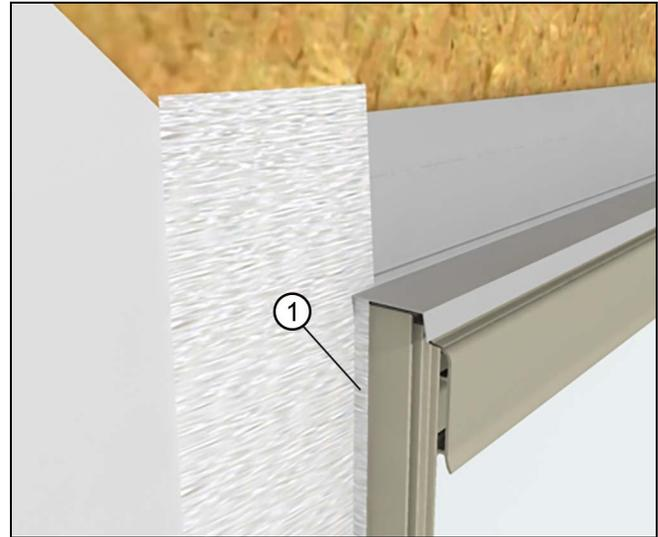

Figure 22
**2.** Lap vertical strips of flashing onto the unit or casing and out over the weather resistive barrier. Make small cuts at the head jamb to allow the flashing to fold back onto the exterior. See Figure 22.